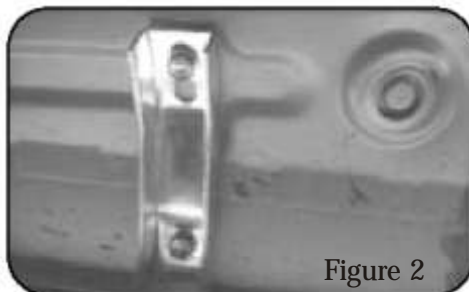

Figure 2
- STEP 3. Locate the three factory mount hole locations on the underside of vehicle rocker panel. Attach front brackets to the first set of mount holes closest to the front of vehicle. Use two M8 bolts. Leave loose. SEE FIGURES 2 AND 4.